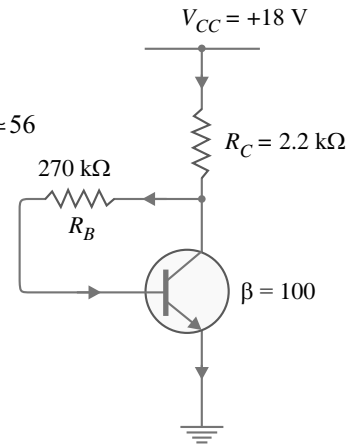

Fig. 7.26
**Example 7.22.** The collector feedback bias circuit shown in Fig. 7.26 uses a transistor with  $\beta = 100$ . If the circuit temperature increases from  $27^\circ\text{C}$  to  $107^\circ\text{C}$ , find the change in collector current. Given that  $I_{CBO} = 15 \text{ nA}$  at  $27^\circ\text{C}$ .